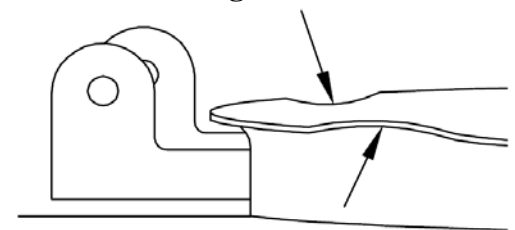

Figure 2
3. Check the ring for abnormalities (refer to OEM specs). [Figure 2]